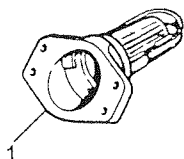

Fig.17
8.3 TUBO LANCIO PER SALE/SABBIA IN ACCIAIO INOX (fig.17)
8.3 STAINLESS STEEL PENDULUM-SPOUT FOR SALT AND SAND (fig.17)